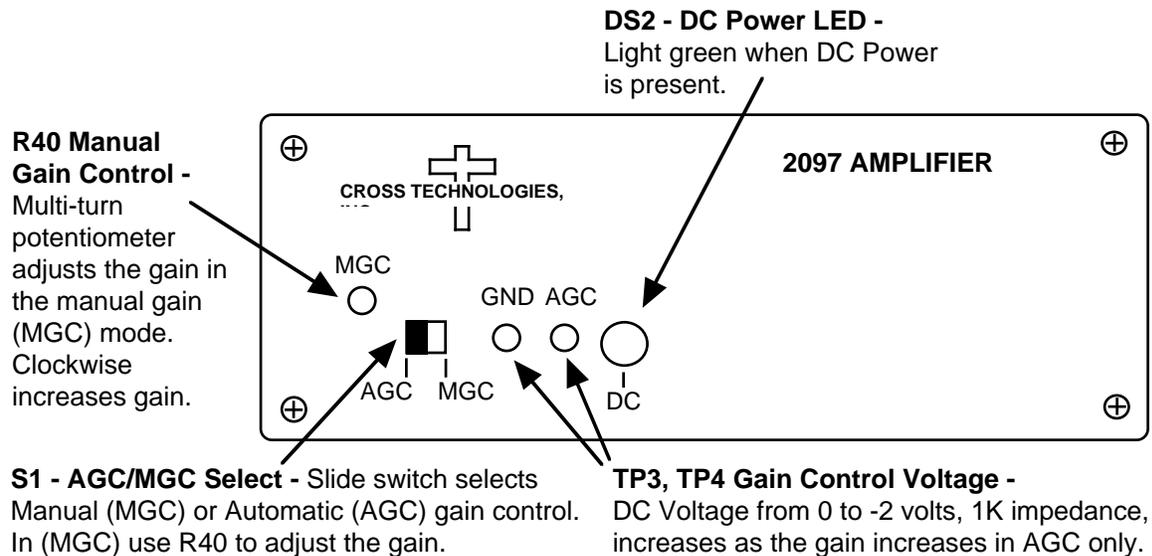

Figure 2.2 2097 Front Panel Controls and Indicators
2.2 Controls and Indicators - Figure 2.2 shows front panel controls and indicators.
- 1.) Check that S1 is set to the desired positions. Normal operation is AGC (*Figure 2.2*)
- 5.) Make sure the DS2 (green, DC Power) is on (*Figure 2.2*).